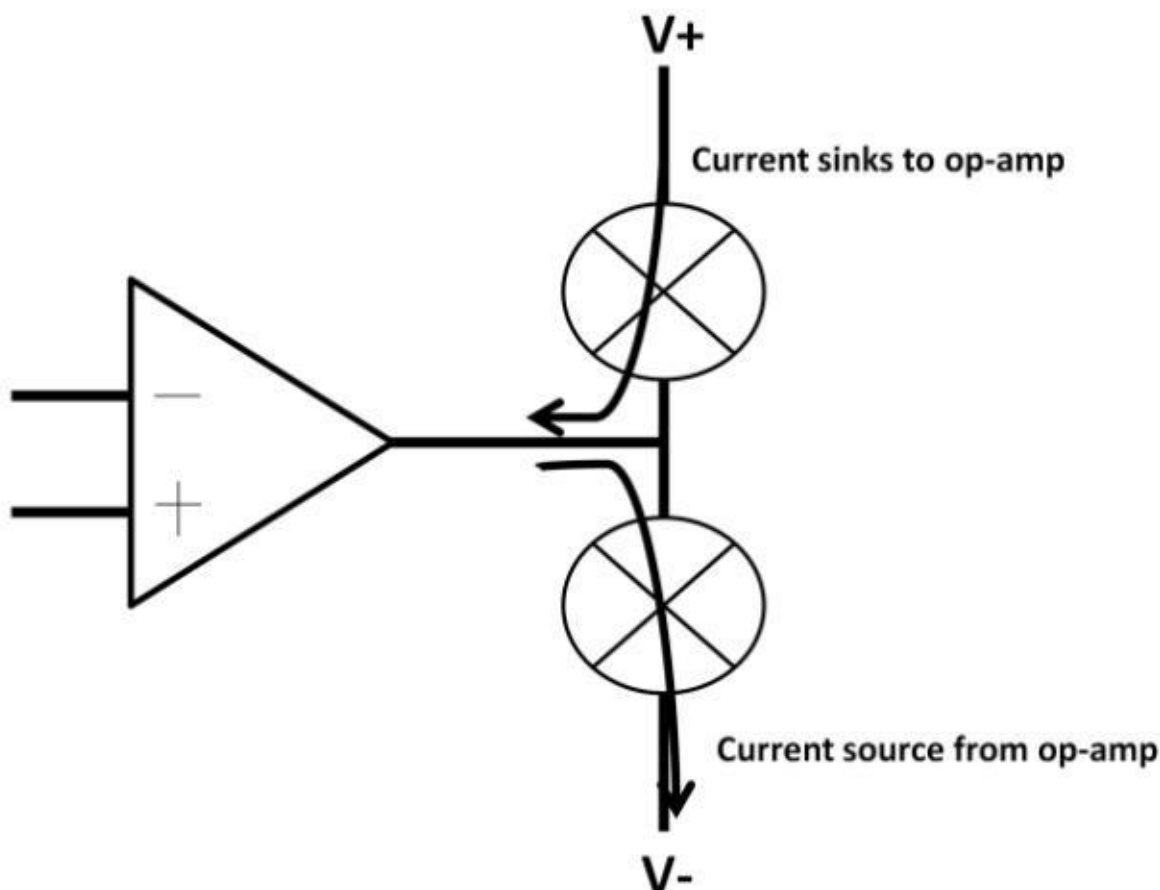

Figure 4.65:
-Output source and sink current: This is the maximum current op-amp could supply and receive. Figure 4.65 depicts what source and sink current mean. There are two electronic loads (circle symbols) in this circuit. The top load turns on when op-amp output goes low sinking current towards the op-amp. When the op-amp output goes high, the top load turns off, and the bottom load turns on. The op-amp is now sourcing current to the bottom load. The current amount capable of sourcing and sinking to and from the load is the op-amp source/sink current parameter.